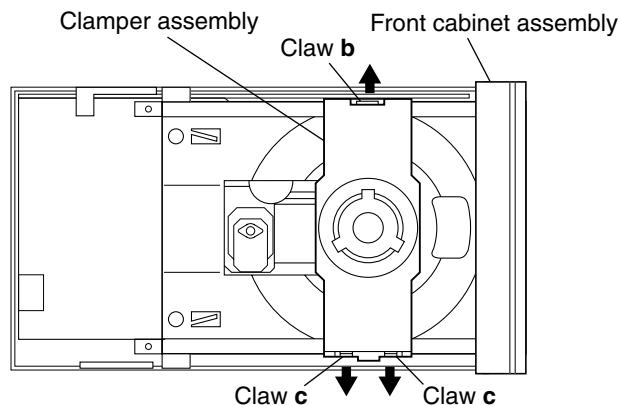

Fig.8
(See Figs. 8 to 11.)
2. Remove the top cabinet. (See **Figs. 8** and **9** of "Main body section" on page 1-8.)
3. From the top side of the main body, open up the claws **b** and **c** on the left and right of the clamper assembly in the direction of the arrows and lift the assembly to remove it. (See Fig.8.)